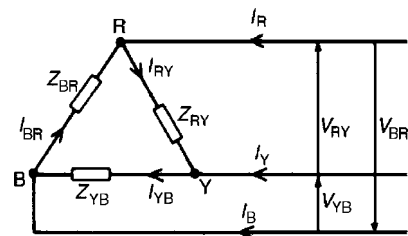
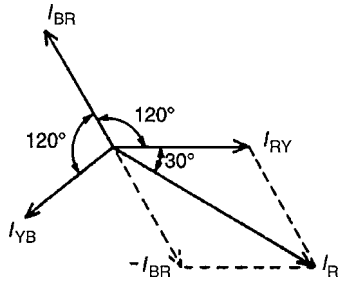

Figure 20.10
Figure 20.11
- (i) A **delta (or mesh) connected load** is shown in Fig. 20.10 where the end of one load is connected to the start of the next load.
- (ii) From Fig. 20.10, it can be seen that the line voltages  $V_{RY}$ ,  $V_{YB}$  and  $V_{BR}$  are the respective phase voltages, i.e. for a delta connection:
- (iii) Using Kirchhoff's current law in Fig. 20.10,  $I_R = I_{RY} - I_{BR} = I_{RY} + (-I_{BR})$ . From the phasor diagram shown in Fig. 20.11, by trigonometry or by measurement,  $I_R = \sqrt{3} I_{RY}$ , i.e. for a delta connection: